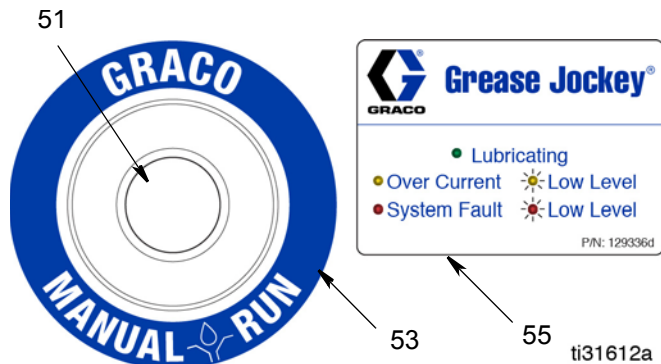

FIG. 16
4. Clean the surface around the outer edge of the push button (1). Position label (53) around the button and adhere label (FIG. 16).